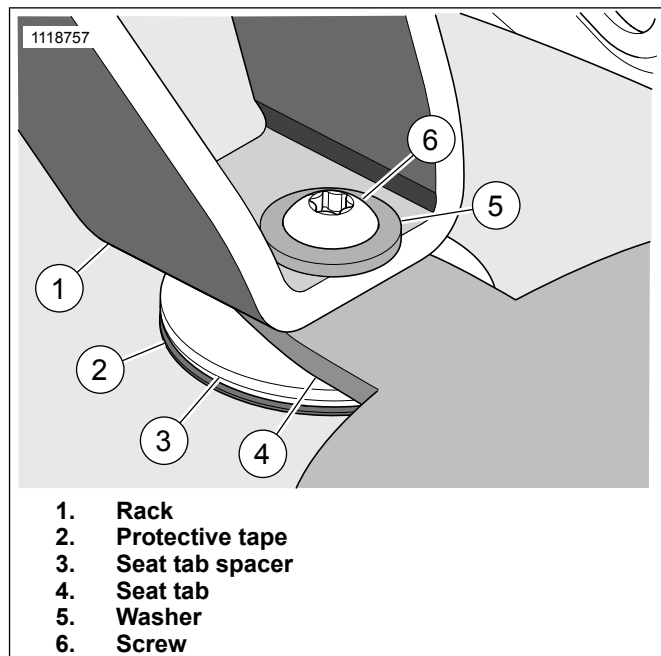
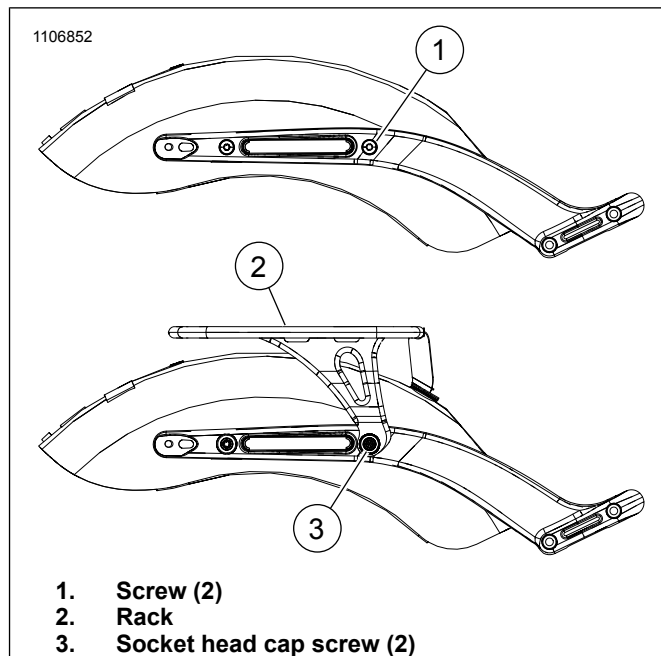

Figure 3. Hardware Installation
Figure 4. Kit 50300120
6. See Figure 3. Place protective tape (2) on top of fender.
10. See Figure 4. Remove screws (1) from fender.
- a. Position rack (2) on fender.
- b. See Figure 3. Align hole in rack (1) with hole in seat tab (4).
- c. Loosely install washer (5) and screw (6).
- d. See Figure 4. Align holes in side plate of rack with fender.
- e. Loosely install both socket head cap screw (3) to hold rack in position
- f. Remove one socket head cap screw (3) and apply threadlocker.